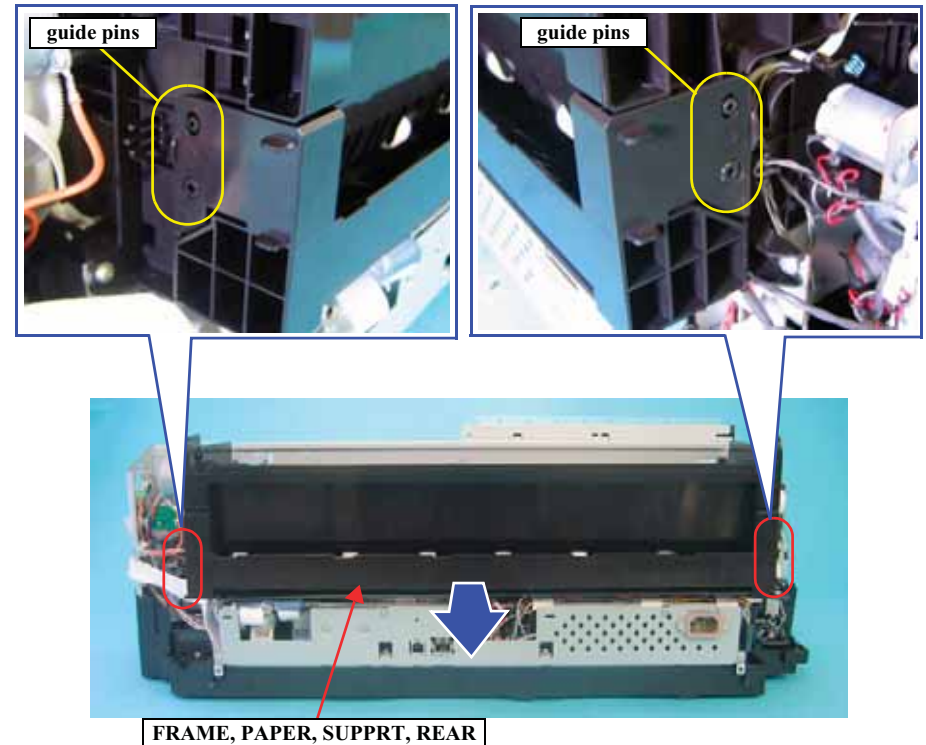

Figure 4-25. Removing the FRAME, PAPER, SUPPORT, REAR
7. Push outward on the circled points of the FRAME, PAPER, SUPPORT, REAR shown in *Figure 4-25* to widen it to disengage the four guide pins of the ASF, ASSY, and remove the FRAME, PAPER, SUPPORT, REAR. *See Figure 4-25.*